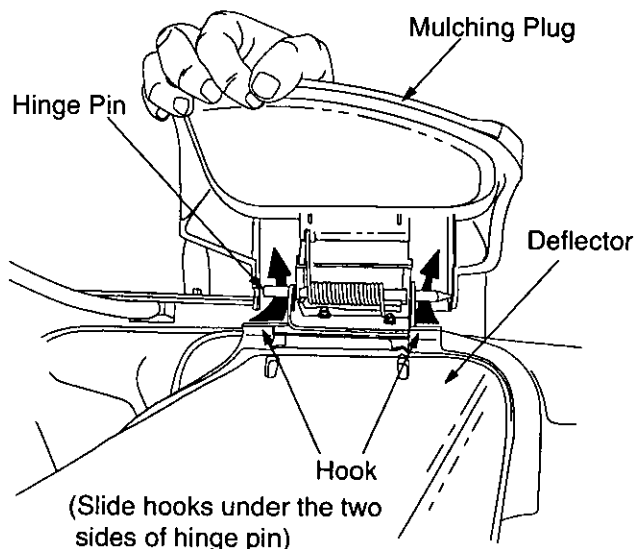

FIGURE 7
- To convert to a side discharge mower, lift the side mulching plug. Slide the two hooks on the side discharge chute under the hinge pin on the mulching plug assembly. See Figure 7. Lower the mulching plug. Do not remove the mulching plug at any time, even when you are not mulching.